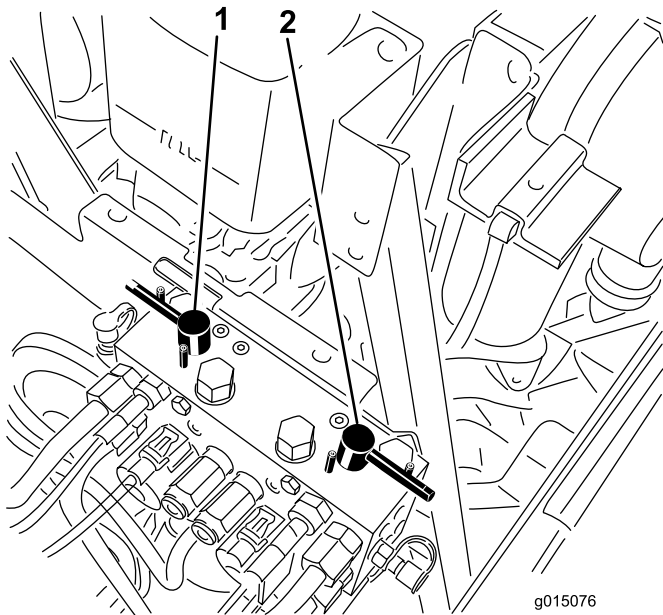

Figure 85
4. Select either front, rear, or both backlap levers to determine which units to backlap (Figure 85).